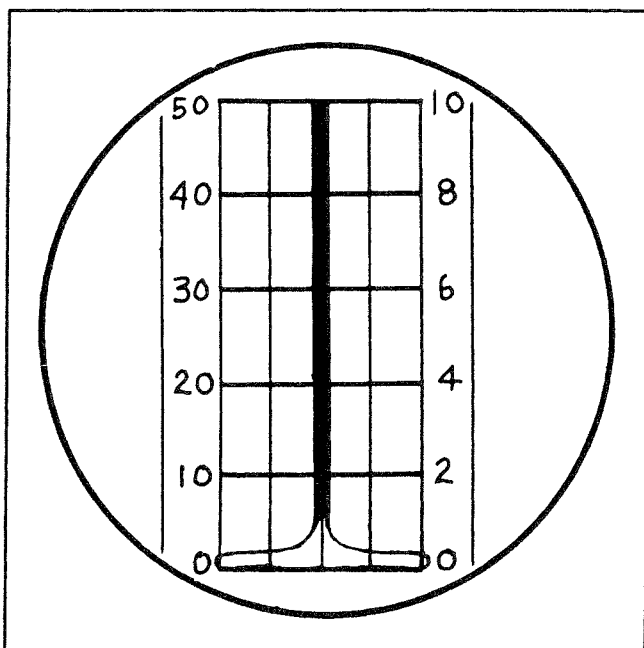

Figure 2-12. Indicator Screen, Transmitter Pulse-Width Signal
(1) With the "HOR. CENT." control, shift the vertical trace back to the original center-line position.
(2) Place the "PULSE-POWER" switch on test indicator in the "PULSE" position, and the "RANGE" switch on Indicator BC-929(*) in the 10-mile position.
(3) Press the push button on the test indicator marked "PUSH". The transmitter signal should now appear on the indicator screen as the rectangular pulse shown in figure 2-12. With the "RANGE" switch on the indicator set at "10", this pulse should extend vertically a distance of approximately one-fourth the first vertical division on the indicator screen.